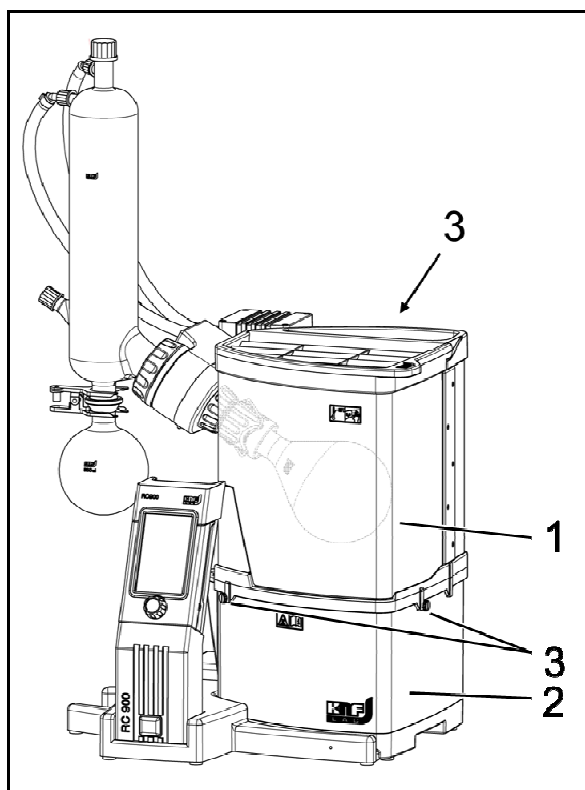

Fig. 7: Protective cover closed
1. Install the protective cover (Fig. 7/1) on the heating bath (2).
2. Fasten protective cover (1) on heating bath: